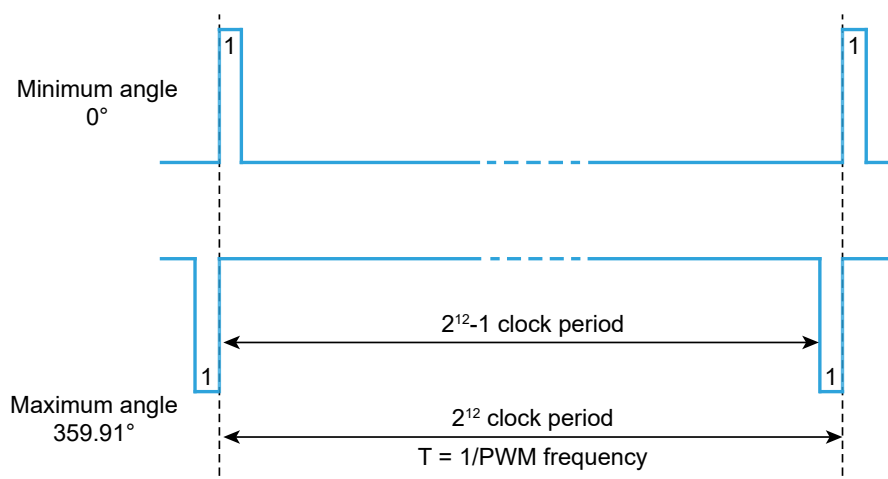

Figure 12. Waveform of PWM mode output signal
AMR3108AP supports pulse width modulation (PWM) output. The duty cycle of PWM is a logic signal which proportional to the magnetic field angle. The duty cycle is limited by the minimum value (1/4096 of the period) and the maximum value (4095/4096 of the period), so the duty cycle varies from 1/4096 to 4095/4096 with the resolution of 12-bits. Figure 12 shows one period of the PWM signal, and the period (T) is  $1/F_{PWM}$ .